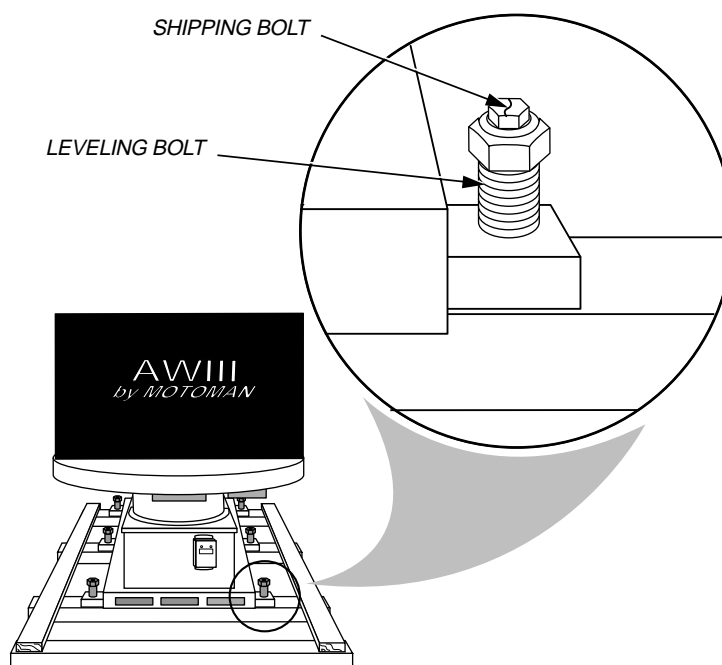

Figure 4-2 Unbolting the Robot/Positioner Common Base
1. Unbolt robot/positioner common base from the wooden shipping skid using a 3/4-in. socket (see Figure 4-2).